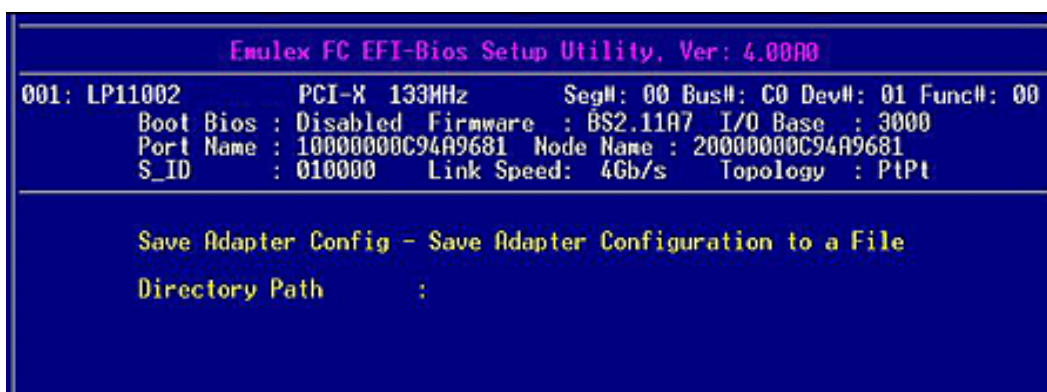

Figure 6-31 Save Configuration Path Screen
1. On the Save Configuration menu, select **1. Save Configuration to File**. The screen shown in Figure 6-31 prompts you to enter a directory path to the file where the configuration is to be saved.